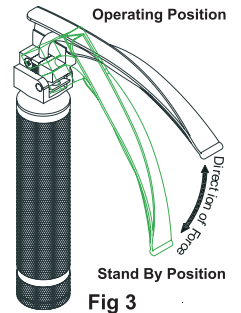

Fig 3
2. Apply force upward to bring the blade in operating position as in Fig 3.
3. To bring the blade in stand by position apply force downward as in Fig 3.